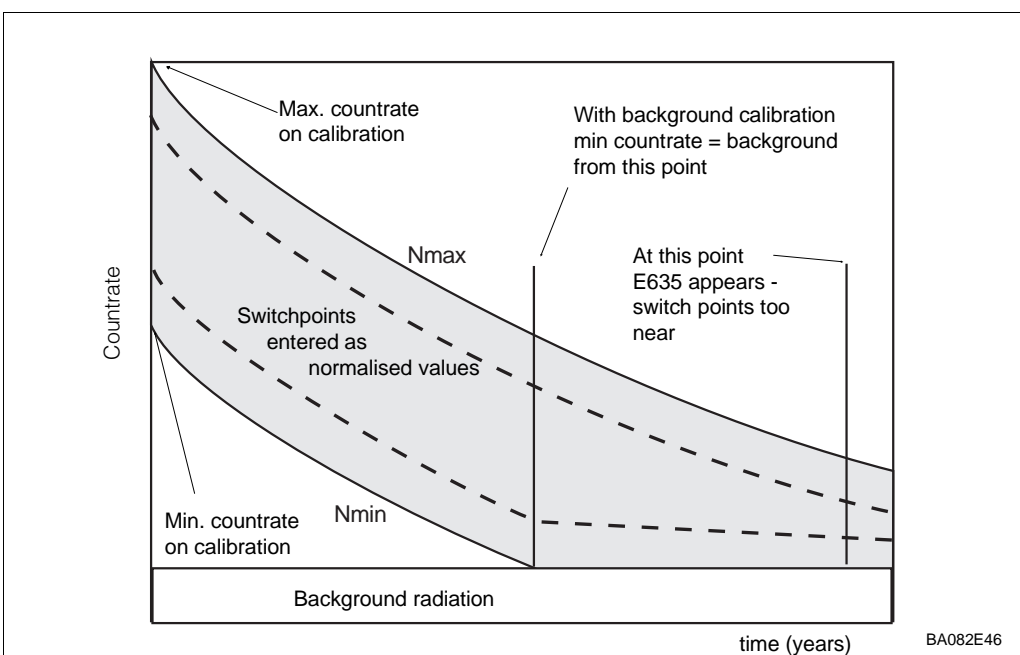

Fig. 4.2: Decay of countrate and compensation of switchpoints with background calibration
- the countrate when radiation is switched off and barrier is covered, s. Fig. 4.2 (the background radiation from the source and environment is then measured.)
As shown in Fig. 4.2, the Gammapilot FTG 671 compensates the calibration parameters for the decay of the source. The switching points are influenced by the compensation, too. The background calibration ensures, that the minimum countrate will not drop below the backraound rate.